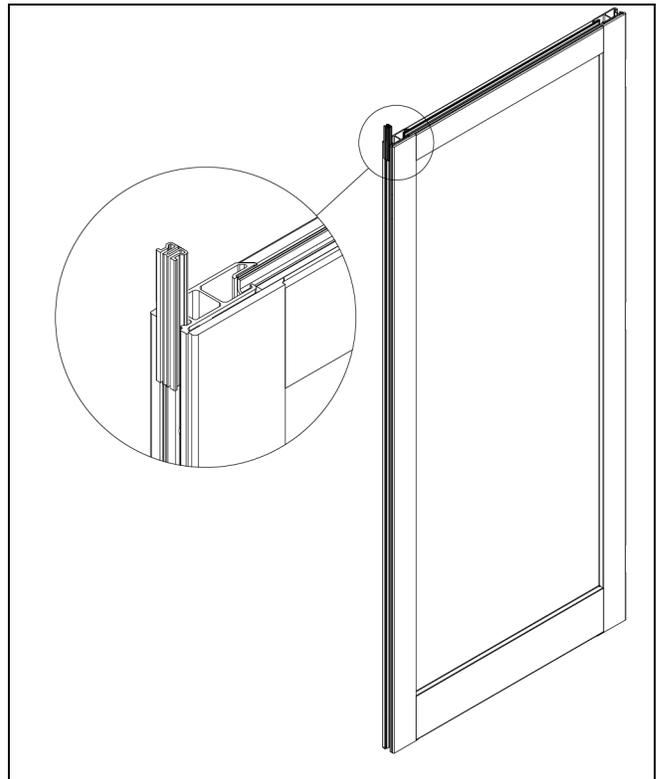

Figure 5
5. Slide the Euro Groove Block into the stile at the top of the panel as shown in Figure 5.